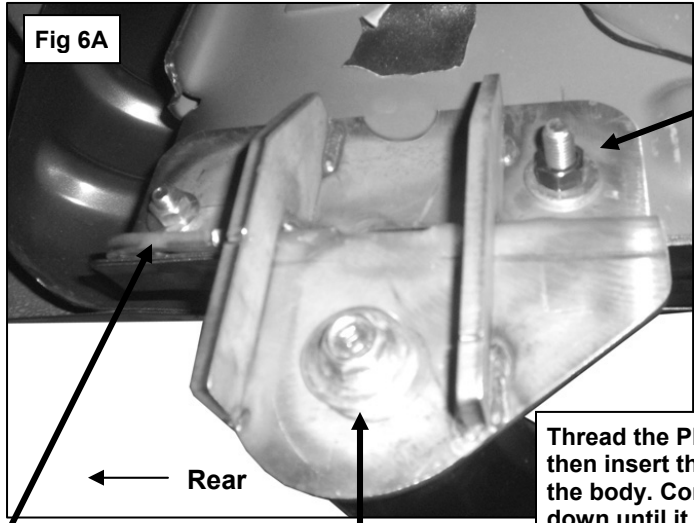
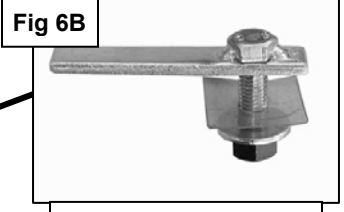

Fig 6A
Fig 6B
6. Moving to the driver side rear, remove the tape covering the holes on the inner body panel. Select (1) 12mm Bolt Plate and thread (1) 12mm Plastic Retainer part way onto it. Insert the Bolt Plate and Retainer into the rear mounting hole, **(Figure 6A)**. **IMPORTANT:** The Plastic Retainer is designed to prevent the Bolt Plate from falling into the body cavity and to aid in mounting the Bracket, **(Figure 6B)**. Once the Bolt Plate has been inserted, thread the Plastic Retainer all of the way down to snug up against the body.